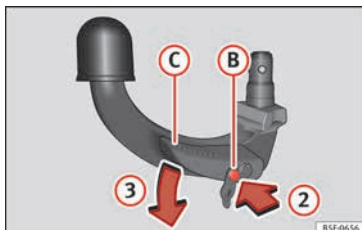

Fig. 220 Step 2
- Press the release bolt (B) in the direction of arrow ②, and at the same time press lever (C) in the direction of arrow ③ as far as it will go » Fig. 220.